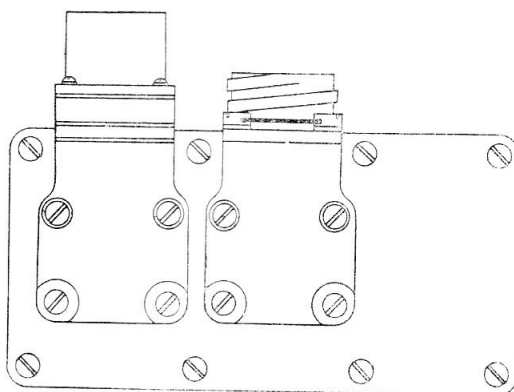

Fig. 1. Plug arrangement for Types A1705 and 1705A actuators
- (1) The supply plugs, which are mounted to face No. 1 motor, are non-interchangeable; that for No. 1 motor is a Breeze type (Ref. No. 5X/6006), coloured red, and that for No. 2 motor a Cannon type (WK-4-325), coloured green (fig. 1).
- (2) A shackle is fitted to one end of the ram, instead of a threaded stud. The shackle has a 0.875 in. dia. clearance hole, to receive a universal bearing, and a 0.187 in. dia. hole for a locking device. The flats of the shackle for the A1705 lie in planes at right angles to the common plane of the motor axes, whilst the